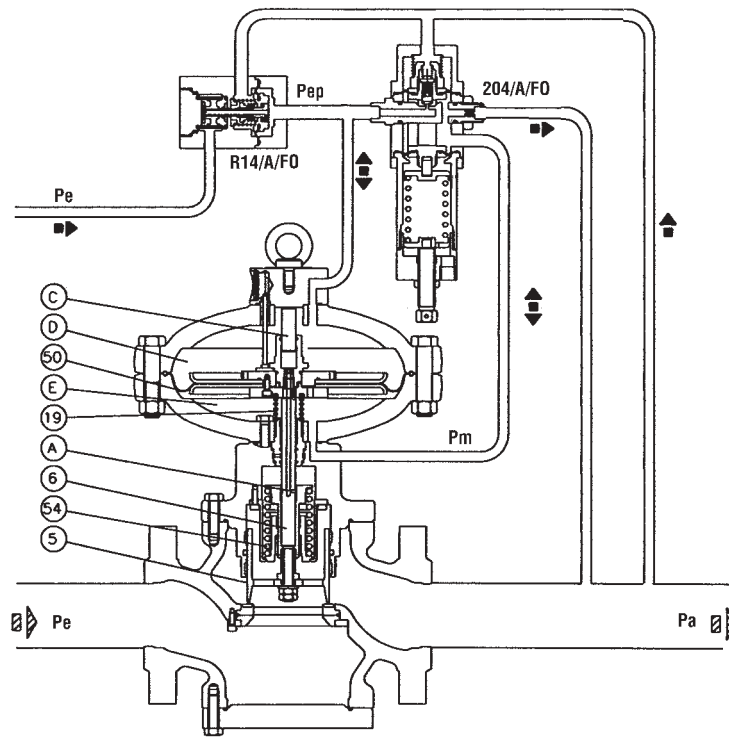

Fig. 1
1.2 OPERATION (FIG. 1)
In the absence of pressure, the obturator 5 is maintained in the open position by the spring 54 (fig. 1). The upstream pressure, even if variable, does not change this position as the obturator is completely balanced and is therefore subject to equal pressures, even if the sections are different.
As a result, the motorisation pressure value, P_m , increases and, by acting in the chamber E under the diaphragm 50 (fig. 1), causes the obturator 5 to move upwards and therefore an increase in the opening of the regulator until the set-point of the regulated pressure is restored.